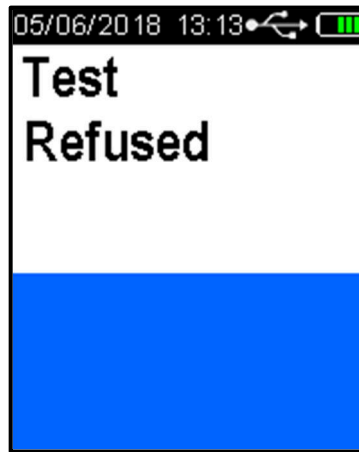

Figure 28 - Test Refused Displayed
- Press the *Test key*. The device will beep rapidly for one second and *Test Refused* will be displayed flashing momentarily (Refer to Figure 28). The screen will then return to the *press to test* display. The test refusal will be recorded in Records.